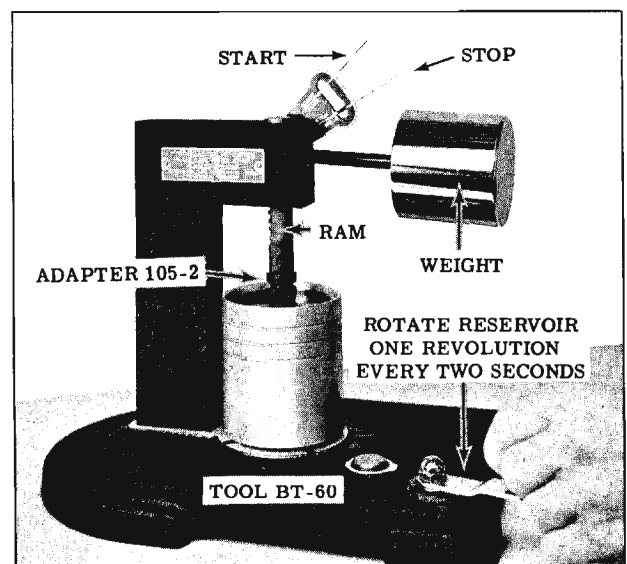

Fig. 8-18 Testing Lifter
12. Raise arm, then start test by resting ram on steel ball. Rotate reservoir one revolution every two seconds and time the indicator from the start to the stop line. (Fig. 8-18) Allowable tolerance for leak-down rate is 12 to 90 seconds (for used lifters) and 20 to 90 seconds (for new lifters).